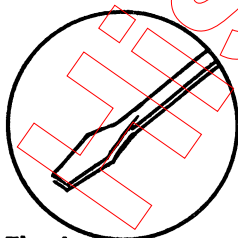
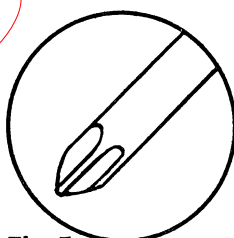
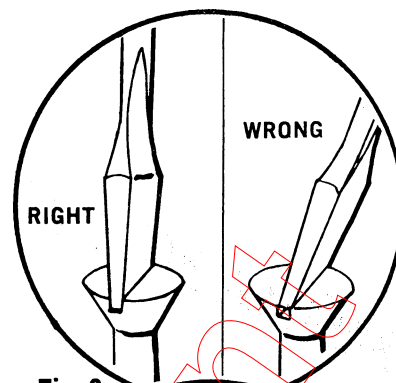

Fig. 4
Fig. 5
Fig. 6
**Straight blade** (Fig. 4), and **Phillips** (Fig. 5). Both come in various sizes. The blade of the screwdriver should fit the slot in the screw. (Fig. 6)